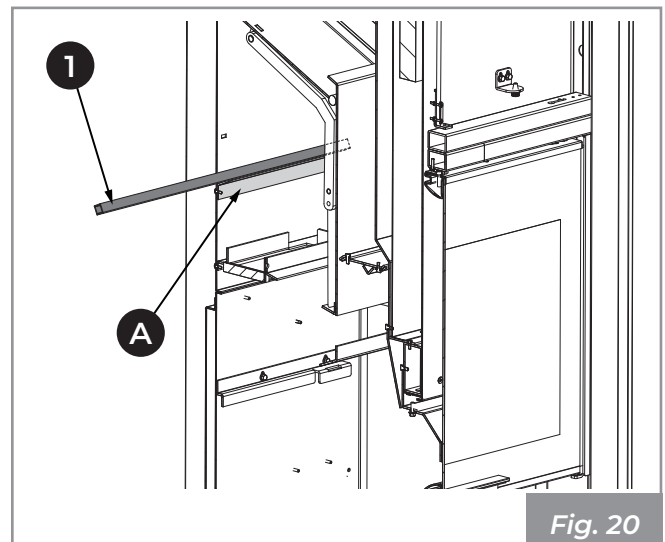

Fig. 20
- 3) Place the spacer (1) by resting it into the appropriate support (A) (Fig. 20).